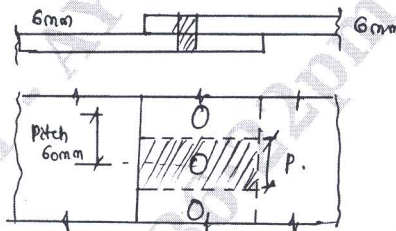

Fig.Q5(b)
b. Two plates of 6 mm thick are connected by "single bolted lap joint" with 20 mm dia bolts at 60 mm pitch. Calculate the efficiency of a joint, take 410 N/mm² and 4.6 grade bolt for the Fig.Q5(b). (14 Marks)